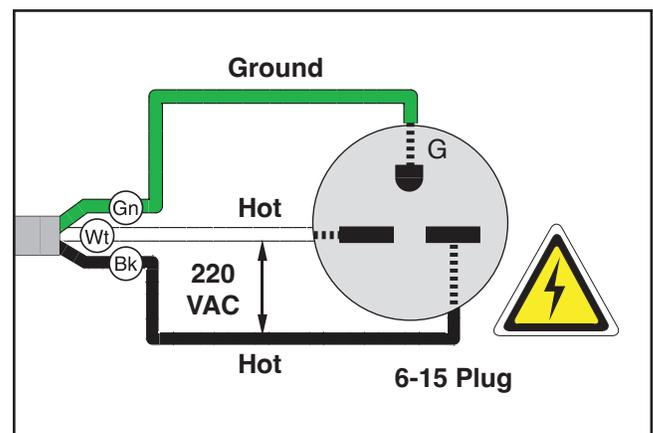

Figure 6. NEMA standard 6-15 plug wiring.
- If plug manufacturer's instructions are not available, NEMA standard 6-15 plug wiring is shown in **Figure 6**.